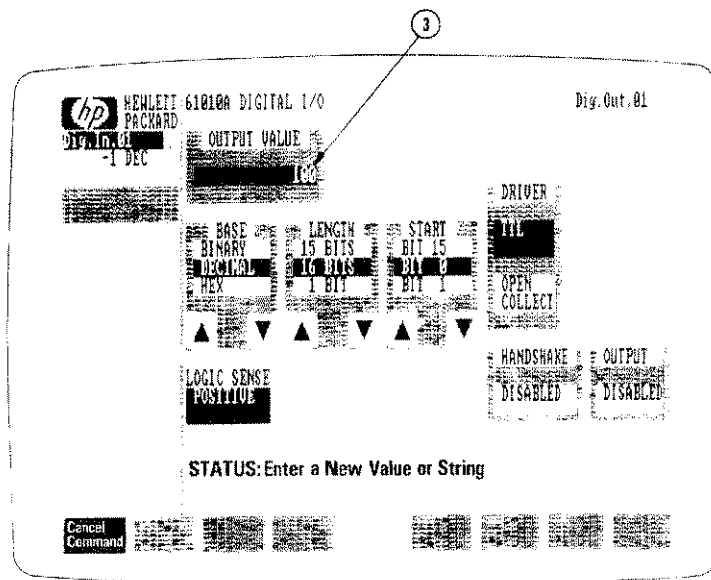

Figure 2-3. Enter a New Output Value
Step 3 - When the output field is selected, the Keyboard Entry Menu softkeys appear on the screen (see Figure 2-3). Use the keyboard keys to position the cursor and type in the value 100. If you make a mistake, press the **Cancel Command** softkey to return to the original value and try again. After you have typed in the new value, press **Return**.